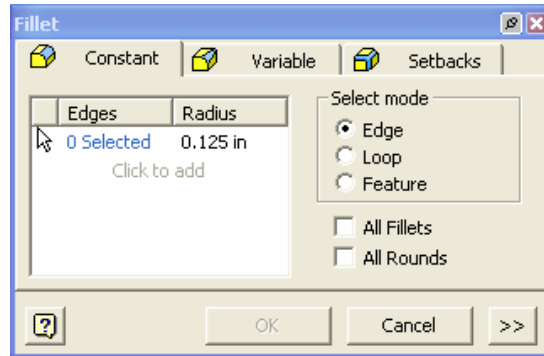

Figure 21
- Set the fillet radius to 6mm and select the four corners as shown in Figure 21 and click **OK** or press **Enter** on the keyboard.